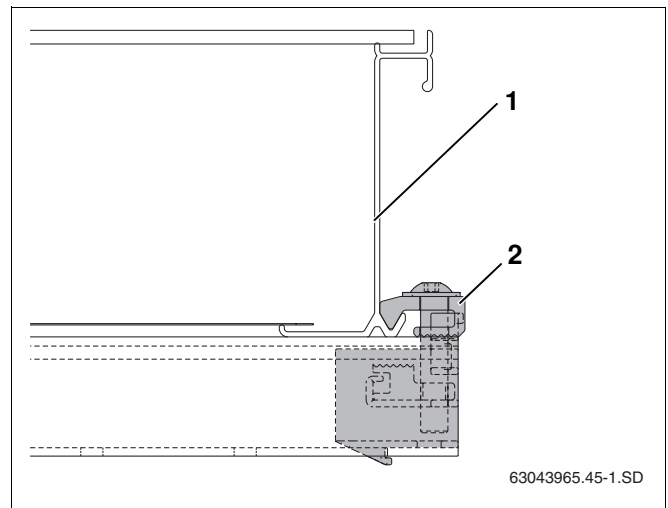

Fig. 44 One-sided collector clamp screwed in place
- Carefully push collector (Fig. 44, **Item 1**) up against the single-sided collector clamp and align horizontally.
- Screw in single-sided collector clamp using size 5 Allen key (Fig. 44, **Item 2**).
The grip (Fig. 44, **Item 2**) on the collector clamp now grips the lower collector edge.